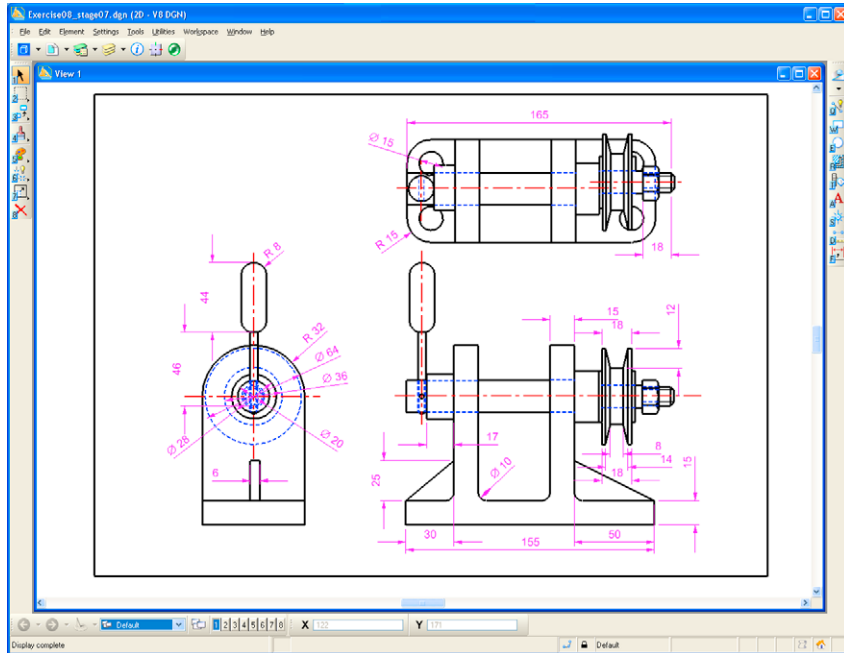

Fig. 10.20 Example – a drawing in MicroStation V8
1. Fig. 10.20 is an example of an orthographic drawing constructed in MicroStation V8.